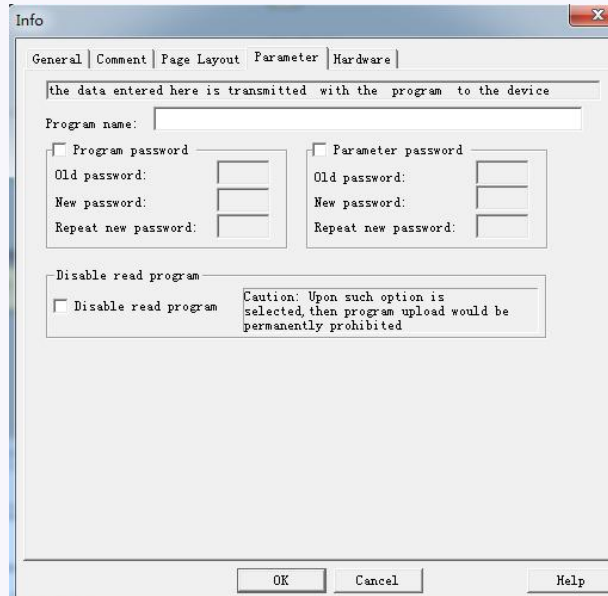

Fig. 7.10.11 Set or modify program password
a. Click "File->Property" and select "parameter" option, then you can input the password into the dialog box shown as Fig.7.10.11 appears: